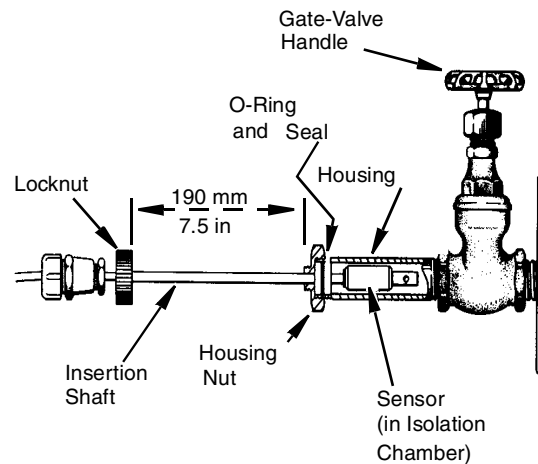

Figure 11. Removal of Gate-Valve Insertion Sensor
WARNING: Do not loosen housing nut (Figure 11) when the gate-valve unit is in the open position and the process line or tank is filled and pressurized.
2. Allow the sensor to enter into the gate-valve housing isolation chamber (see Figure 11). Expose the insertion shaft 190 mm (7.5 in) minimum.